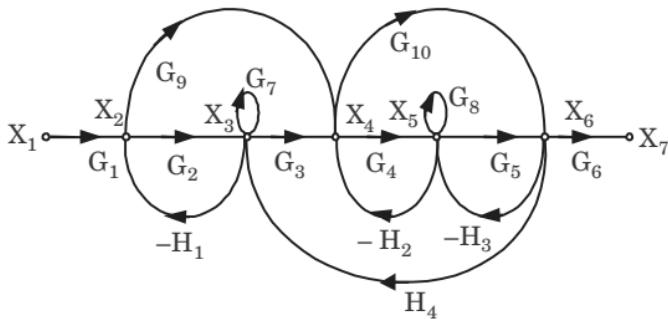

Fig. 2.
- a. Find the transfer function of the signal flow graph shown in Fig. 2, using Mason's gain formula.